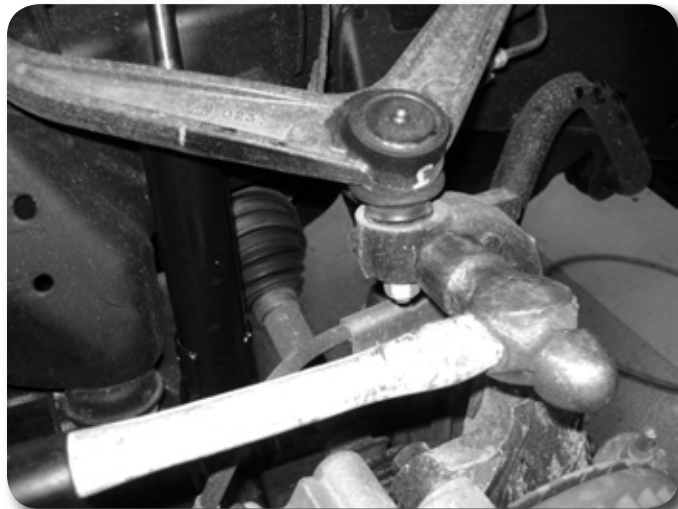

Figure 3a
10. Remove the upper ball joint nut, reinstall a couple of turns. Hit the side of the knuckle to dislodge the upper ball joint from the steering knuckle. Remove the factory upper control arm from the vehicle. **Figure 3a, 3b**